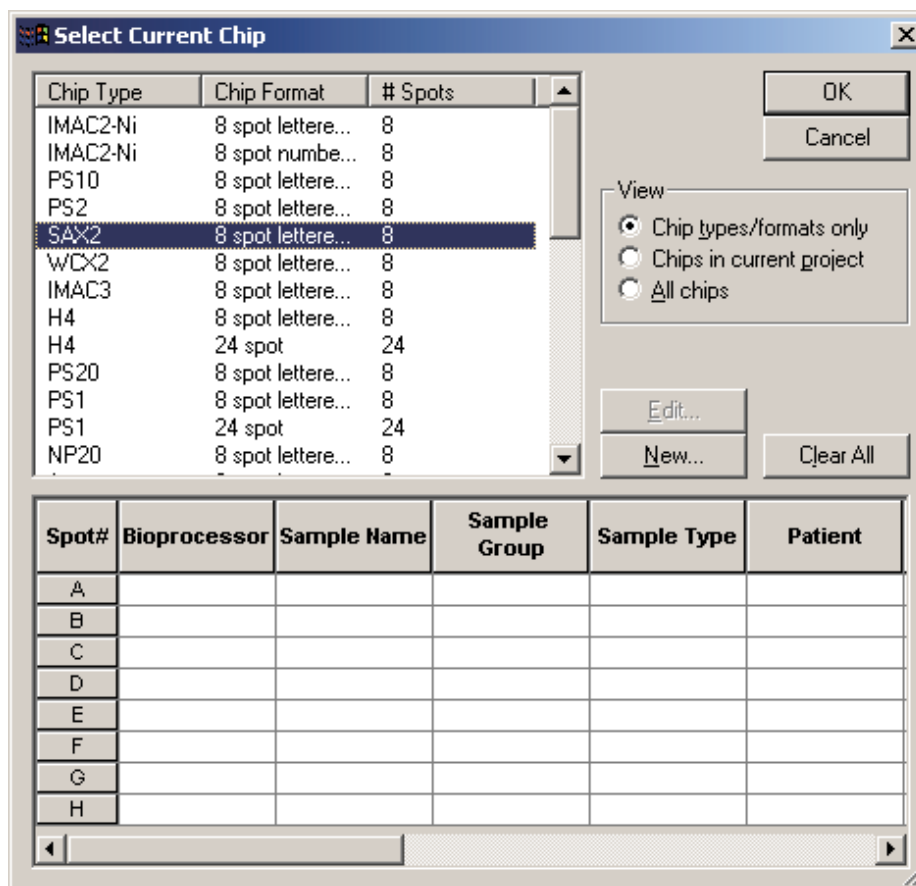

Figure 1-3: The *Select Current Chip* dialog.
5. The **Select Current Chip** dialog (Figure 1-3) will open on top of the **Sample Exchange** dialog. This dialog allows you to enter data about the individual samples on the chip, and is particularly useful for keeping track of profiling, and other high-sample-number experiments. Data entry in this dialog is optional. To close the dialog, click **OK** to accept the information you entered, or **Cancel** to exit the dialog without saving any changes. (You can open the **Select Current Chip** dialog later to edit or add information.)